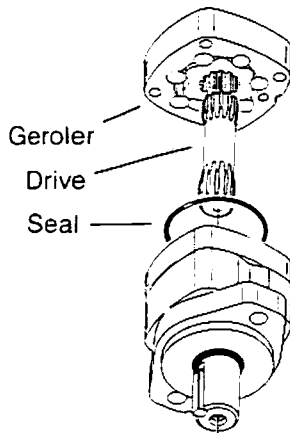

figure 13
⑥ 33 Install the Geroler assembly on the wear plate. Be sure the notches are aligned and the star and rollers are in place, see figure 13.